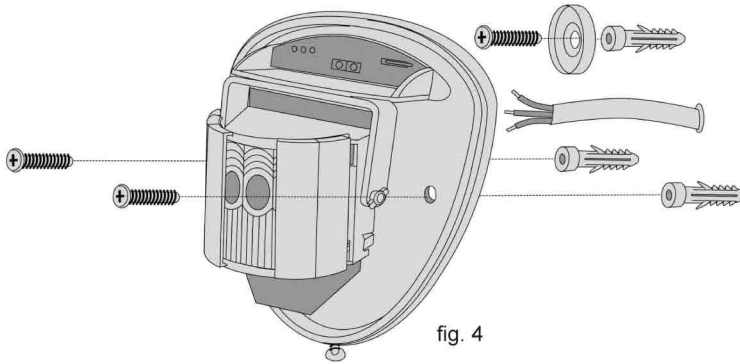

fig. 4
- 3) Feed standard 8 core alarm cable into the cable entry; bare the wires and connect to the removable terminal block as shown in fig. 7. Screw the unit to the wall ensuring that the tamper pin is correctly located and that the tamper microswitch is closed. **See fig. 4 and 5.** To aid installation, two spare tamper feet are provided. One is 1mm longer and the other is 2mm longer than the tamper foot originally fitted. The tamper foot is a push fit and can be removed by carefully pulling it from the pin. **See fig. 2.**